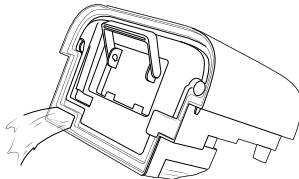

Fig. 2
- ◆ Pour out the water through the opening in the lid (see figure 2) and replace the water tank ④ in the appliance. The appliance resumes operation with the previously selected programme.